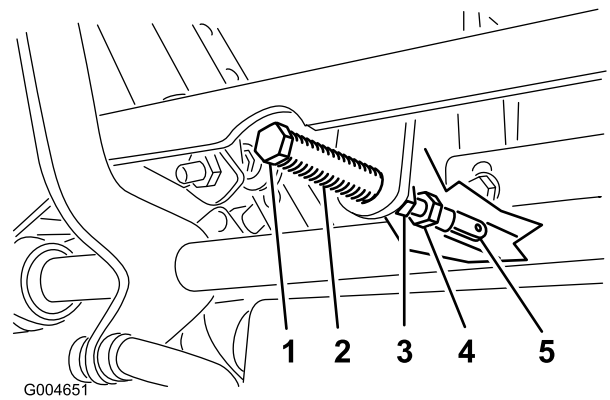

Figure 72
5. Pull the lever back until the clevis pin (on an arm above the pivot shaft) contacts the end of the slot (just beginning to put pressure on the spring) (Figure 72).
7. If adjustment is needed, loosen the nut and jam nut against the yoke (Figure 72).
8. Applying slight rearward pressure on the motion control lever, turn the head of the adjustment bolt in the appropriate direction until the control lever is centered in the neutral lock position (Figure 72).
9. Tighten the nut and jam nut (Figure 72).
9. Tighten the jam nuts at the ball joints (Figure 72).